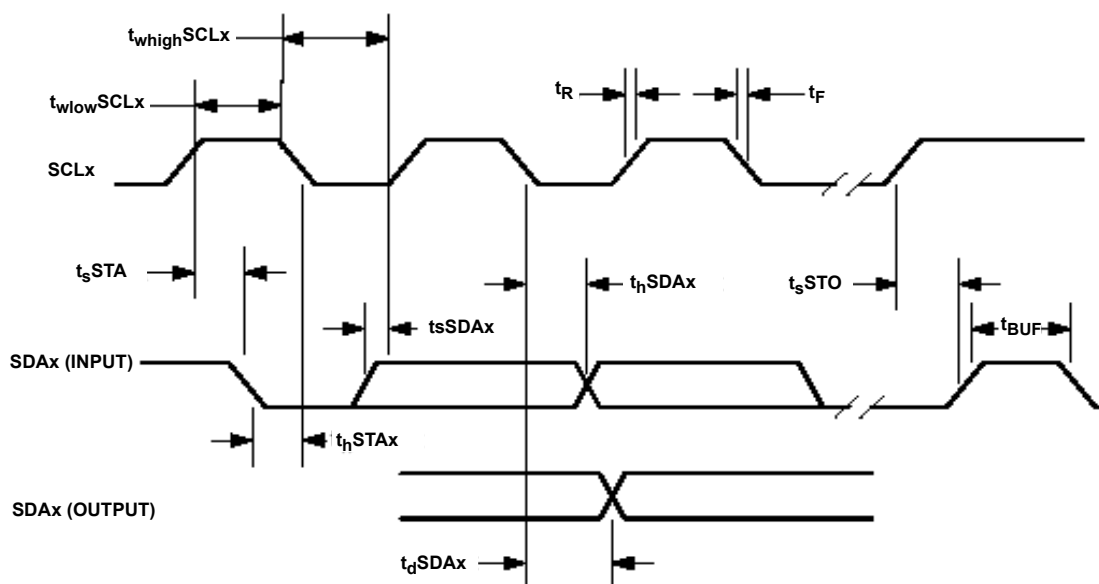

FIGURE 4. I2C INTERFACE TIMING
**Two-Wire (I2C) Interface Port Timing** (Figure 4)  $T_A = +25^\circ\text{C}$ ,  $CVDD = PLLVDD = 1.8\text{V} \pm 5\%$ ,  $RVDD = PWMVDD = 3.3\text{V} \pm 10\%$ . All grounds at 0.0V. All voltages referenced to ground.